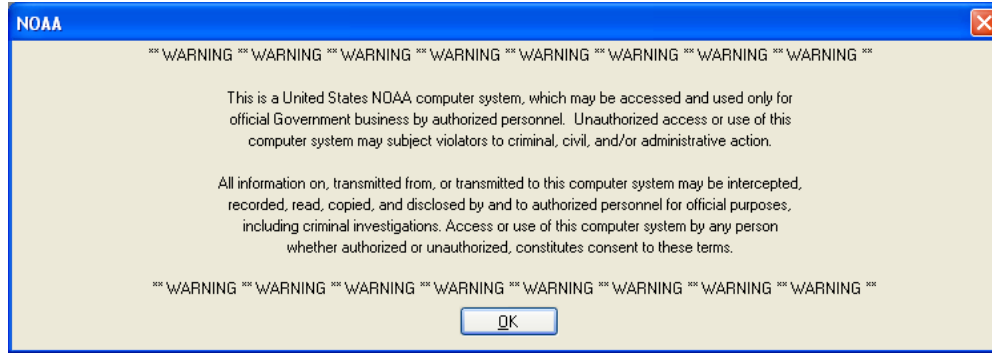

Figure A-13: NOAA Warning Window
2. Double-click on the **RWS.NET** shortcut to start the RWS application. The *NOAA Warning* window will appear (Figure A-13).